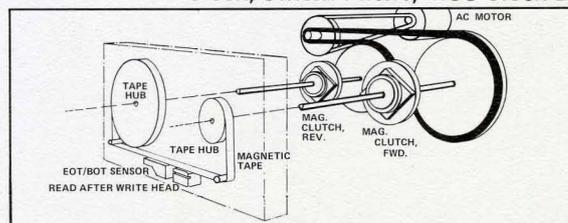

Figure 2 – Transport, Simplified View
**MECHANICAL TRANSPORT** — The transport consists of a minimum amount of components (see Figure 2). A continuously rotating motor drives two hub pulleys in opposite directions as shown. Two magnetic clutches are provided, one on each hub shaft, to couple or decouple the rotating shafts from their respective tape hubs. After the tape cassette is loaded onto the transport, activating one clutch or the other will move tape in the forward or reverse direction. The tape path through the transport includes an EOT/BOT sensor and a read-after-write tape head. The transport also includes switches for the following functions: Rewind, Write Enable, and Cassette-In-Place.